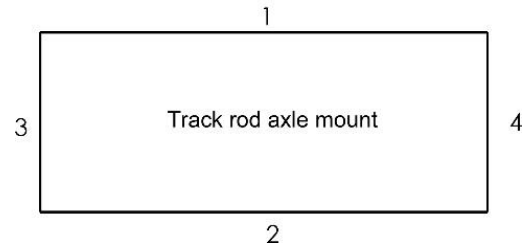

Figure 22. Tack Welding Axle Mount
8. Tack weld all 4 sides of the axle mount to the axle housing as shown in Figure 22.